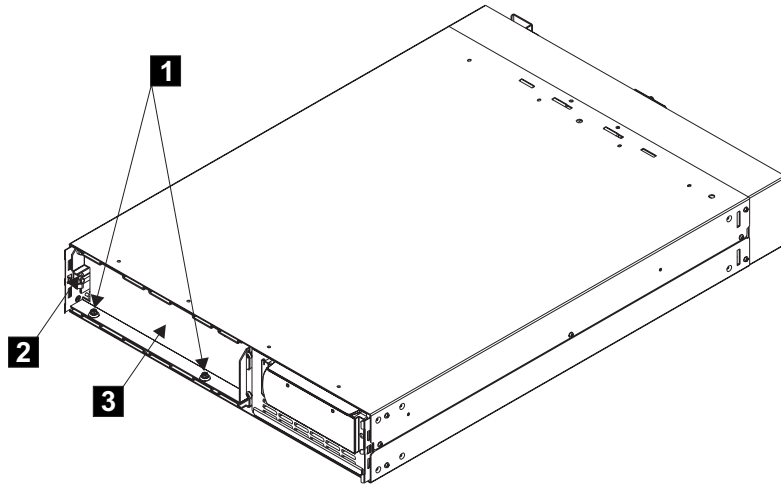

Figure 86. Fastening the battery retaining bracket
- c. Remove the two bolts **1** and additional nut **2** on the left side of the bracket, as shown in Figure 86 on page 125. Next, remove the battery retaining bracket **3**.